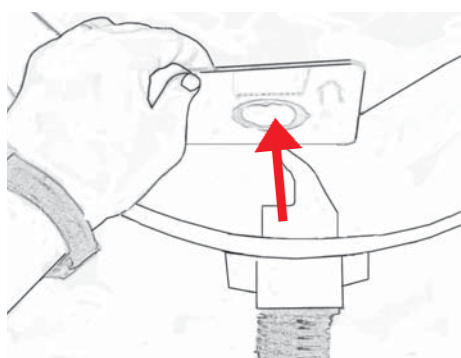

Fig. 23
5. Remove the old dust bag by turning the cardboard stiffener to the right or left so that the raised part of the inlet is in line with the opening in the card. Carefully pull out the card, Fig. 23. Fold down the perforated part of the cardboard towards the opening of the bag in order to prevent the bag contents to leak out.